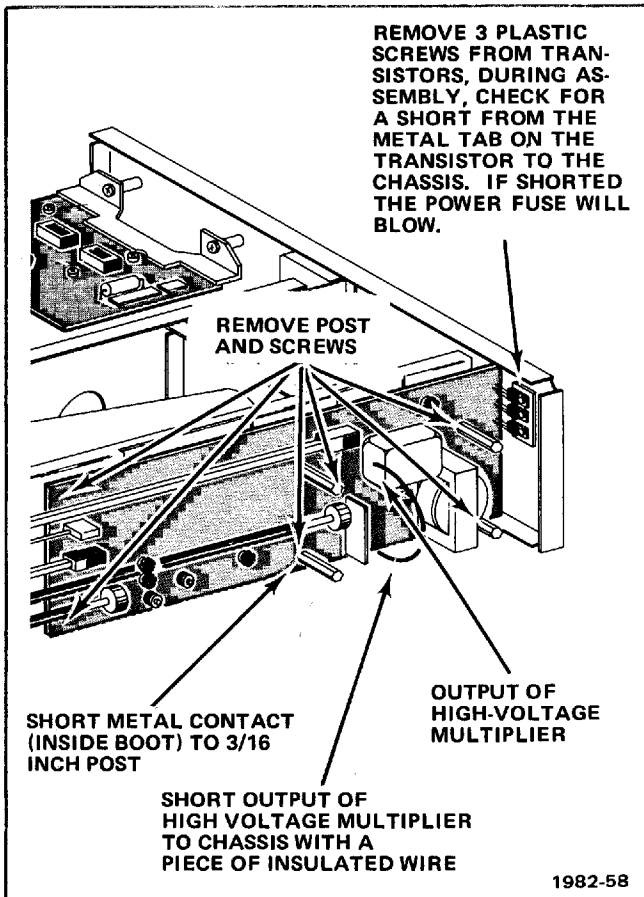

Fig. 5-12. T922R interface board replacement.
9. Remove the screws and posts from the interface board (see Fig. 5-12).
11. During reassembly, use the plastic screws to hold the power transistors (see Fig. 5-12).
The crt anode and the high-voltage multiplier will hold a charge after you turn off the instrument. To prevent a shock hazard, use only one hand to remove the anode lead. Then, touch the anode lead to one of the posts to discharge the crt (see Fig. 5-12). Also, take a short piece of insulated wire and short the output of the high-voltage multiplier to the chassis (see Fig. 5-12).